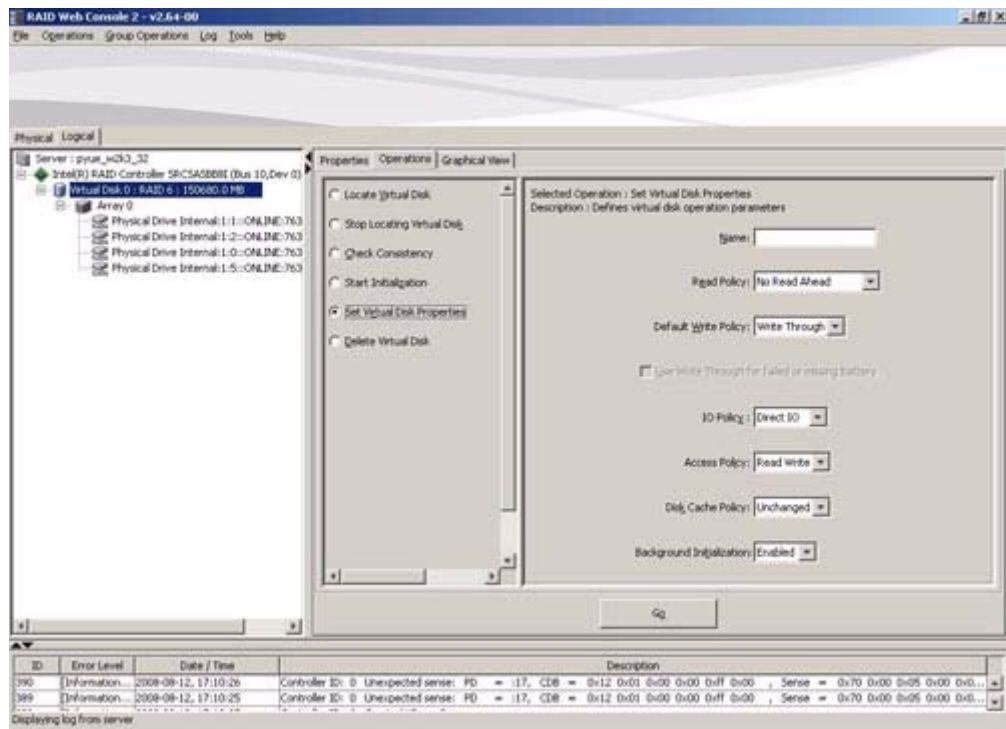

Figure 67. Set Virtual Disk Properties
1. Select a virtual disk icon in the left panel and then select **Operations | Set Virtual Disk Properties**. Alternatively, click the **Properties** panel and then click **Set Virtual Disk Properties**. Figure 67 shows the Set Virtual Disk Properties screen.